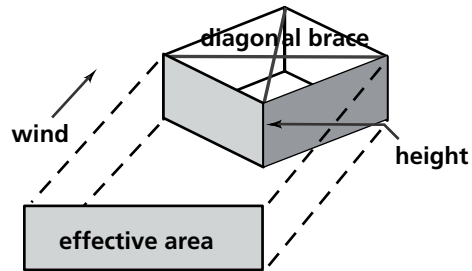

Figure 2
2. In Figure 2, a diagonal brace of the square box kite is perpendicular to the wind. Describe the shape of the effective area and the difference between this effective area and the effective area in Figure 1.